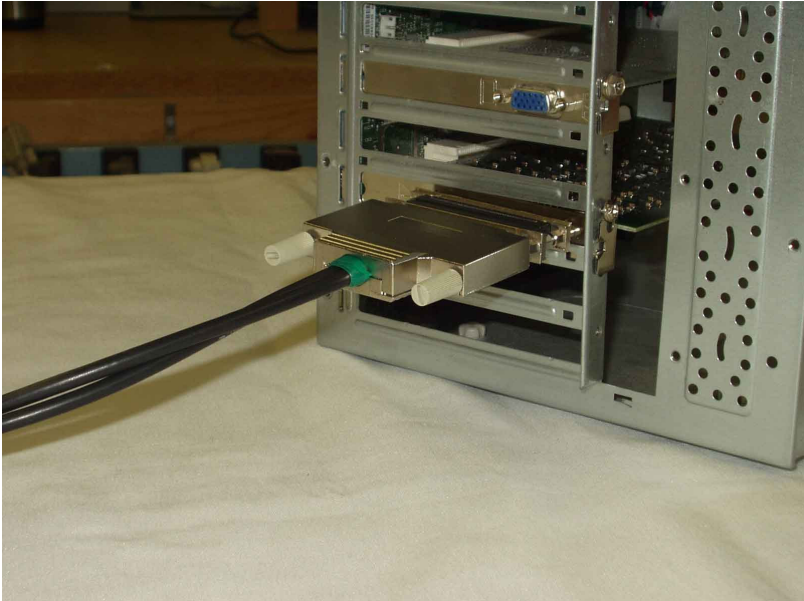

Figure 5
5. Fasten the connector onto the gender changer and screw the knurled threads into the single jack screws (Fig. 5).